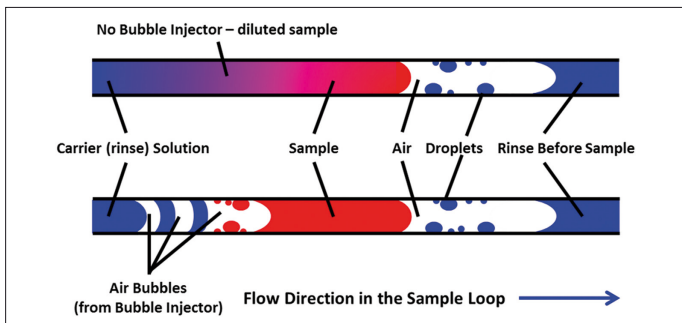

Figure 4: Comparison of sample loop with and without a bubble injector.
- **Bubble Injector:** The Niagara Plus-CM automatically injects several air bubbles at the end of the sample plug while filling the sample loop, as shown in Figure 4. These air bubbles prevent boundary diffusion, allowing for a smaller volume of sample to be used and prevent any sample dilution/mixing with the carrier solution. Because the bubbles are injected at a programmed time they are never introduced into the nebulizer which would cause plasma disturbances and require greater stabilization delays. When bubbles are placed between the sample solution and the carrier solution the surface tension restricts the mixing of the two solutions (see the bottom tube in Figure 4). Injecting the bubbles at the end of the sample allows virtually all the sample in the loop to be used for analysis. The bubble injector will put 8-10 bubbles at the end of the sample loop over approximately 25mm of tubing.